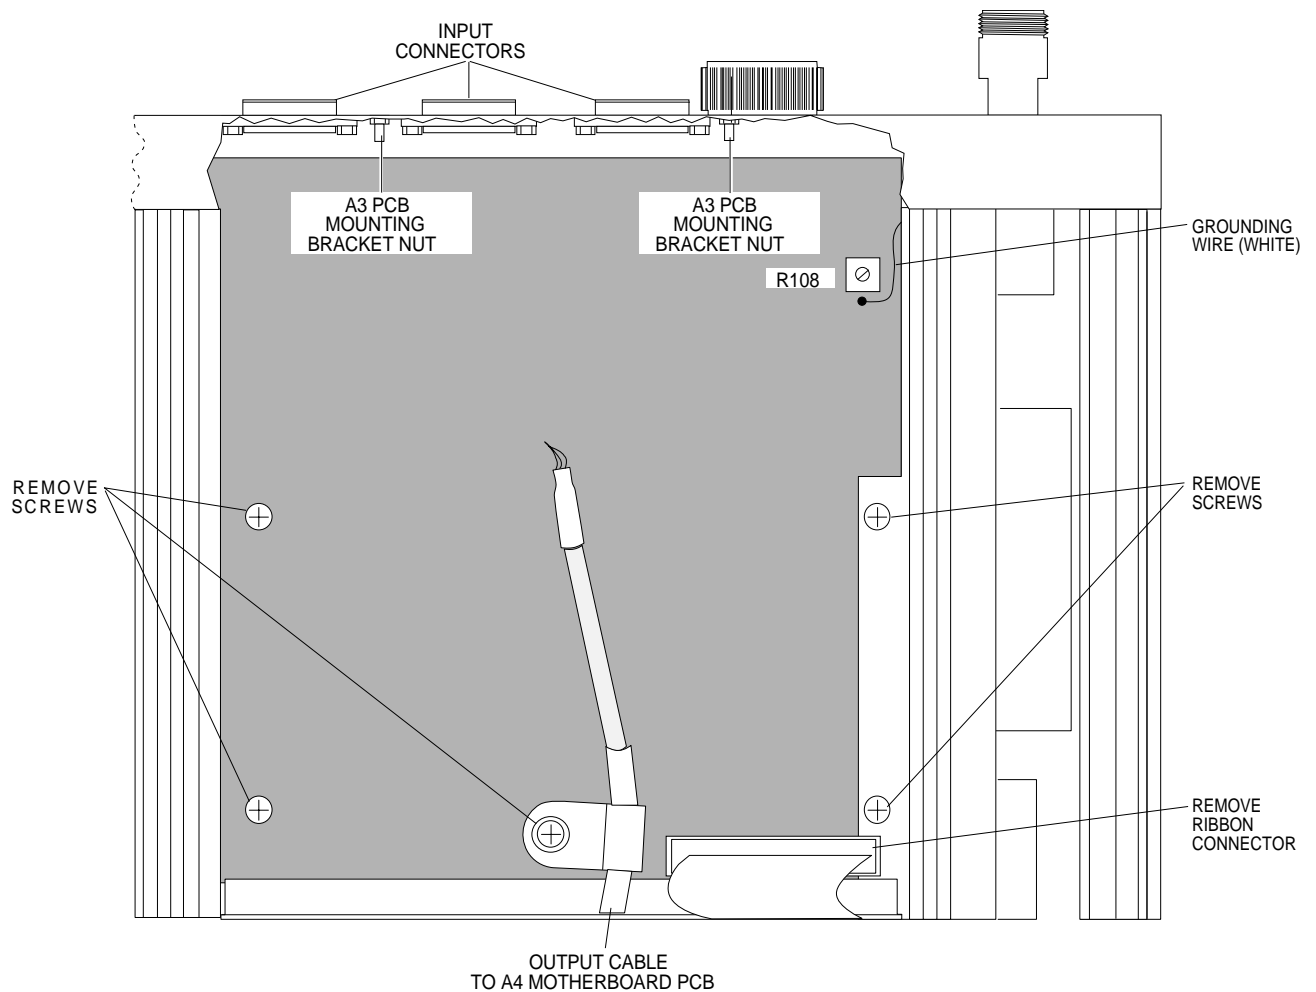

Figure 5-2. Removing the A3 Signal Channel PCB and Front Panel Input Connectors
main deck (Figure 5-2). Set screws and washers aside.
- Step 2** Remove the two nuts that fasten the front panel input connector bracket, which is part of the A3 Signal Channel PCB. Refer to step 5 of paragraph 5-4 and to Figure 5-2.